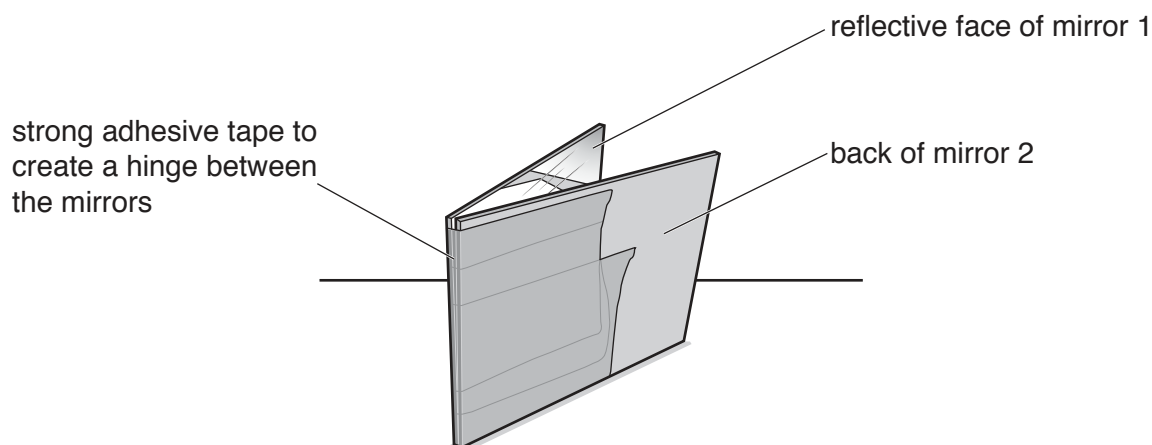

Fig. 1.4
2. Place the mirrors so that their reflecting surfaces are facing. Use strong adhesive tape across one edge to join them together, as shown in Fig. 1.4. Using the tape as a hinge, candidates should be able to vary the angle between the mirrors.